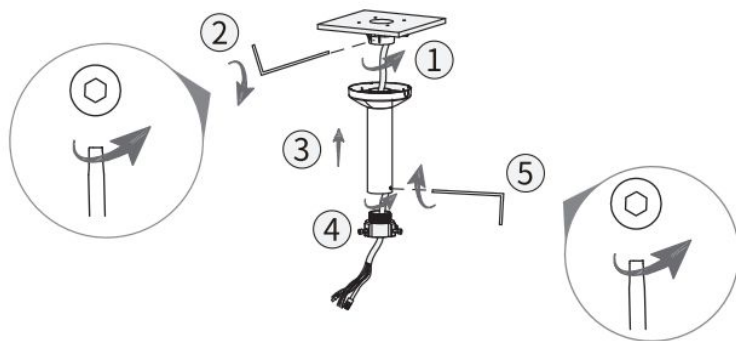

Figure 2-6
Step 2 Install the extension pole into the mount and thread the end cables through the extension pole, as shown in Figure 2-6.